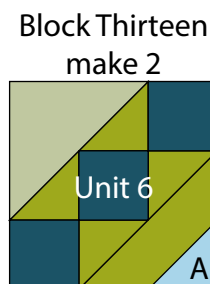

Fig. 26
14. Place (1) $5 \frac{1}{2}$ " Fabric A square on the bottom right corner of (1) Unit 6 square, right sides together. Sew across the diagonal of the smaller square from the upper right corner to the lower left corner. Flip open the triangle formed and press. Trim away the excess fabric from behind the triangle $\frac{1}{4}$ " away from the sewn seam to make (1) Block Thirteen square (Fig. 26). Repeat to make a second Block Thirteen square.